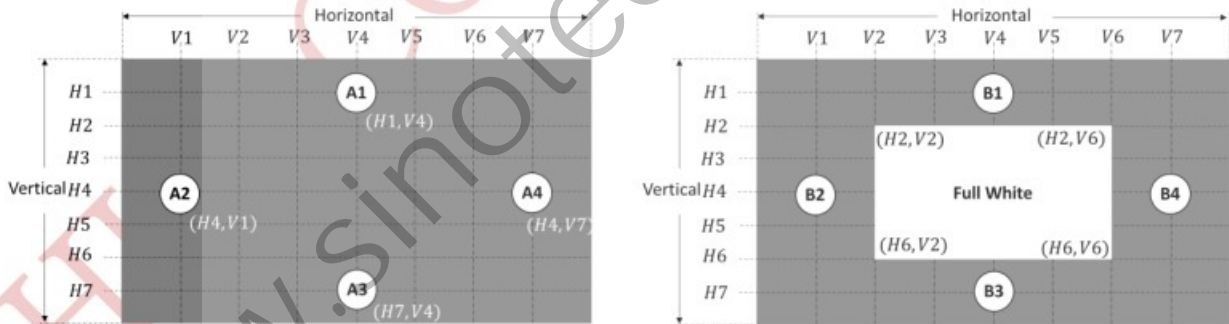

Fig 4.5 Definition of Crosstalk (2D)
(7) Definition of Crosstalk (2D)
Crosstalk of one area of the LCD surface by another shall be measured by comparing the luminance (A), with all display pixels set to a gray level, to the luminance (B) of that same area when any adjacent area is driven full white pattern which shown in Fig. 4.5. The gray level of background is set to 25% full gray pattern.
Crosstalk(%) =  $\text{Max.} \left( \frac{|L_B(X) - L_A(X)|}{L_A(X)} \times 100\% \right)$ , Where the X is point 1 to 4 shown in Fig.4.5